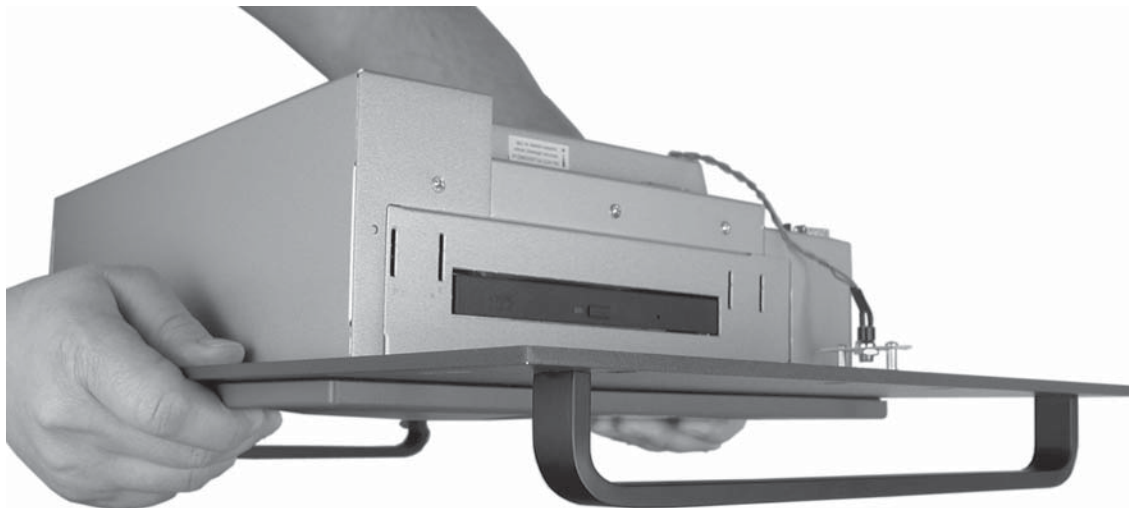

Figure 2-1 — A properly supported FPC computer and panel
CAUTION *Hold the computer and the panel together at the top and bottom when removing the computer and panel from the shipping carton (figure 2-1). The computer is loosely nested in the panel and could drop if it is not properly supported.*
2. Remove the computer and the panel from the shipping carton. Support the FPC computer as shown in figure 2-1.